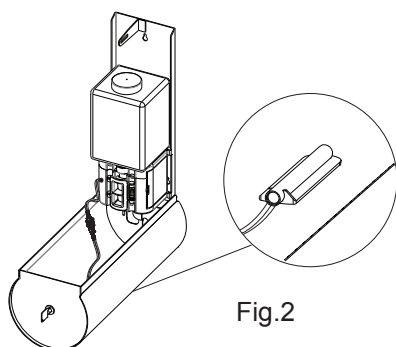

Fig.2
1. Open the housing with the security key supplied (Fig. 2).